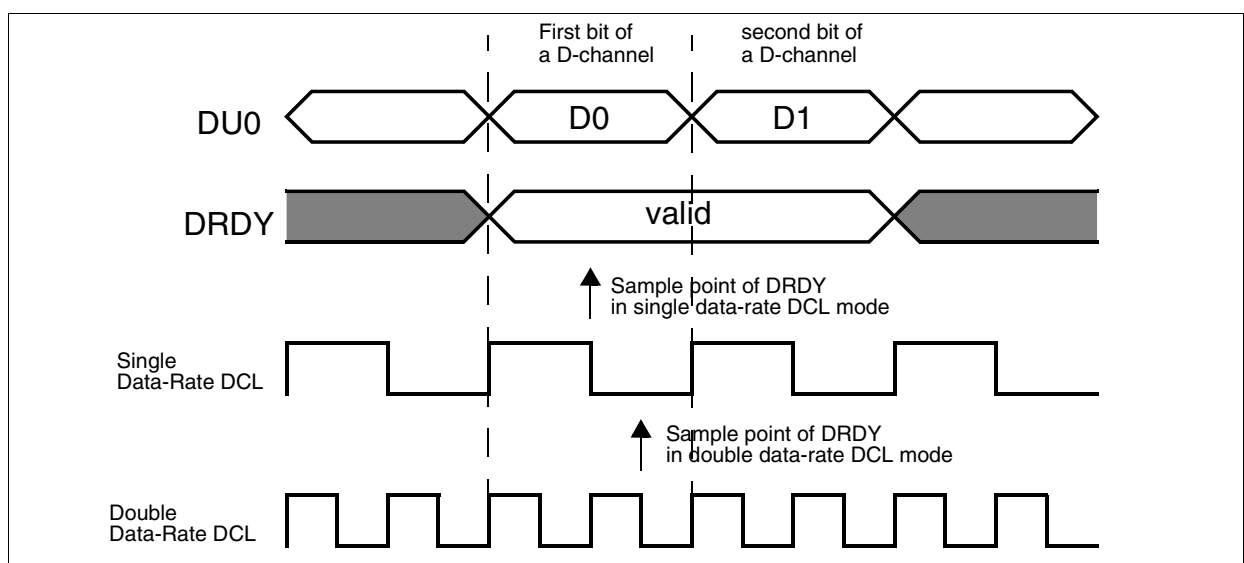

Figure 40 DRDY Sampling Timing
- Sampling with the first DCL falling edge (in single data-rate DCL mode) or with the second falling DCL edge (in double data-rate DCL mode), refer to Figure 40.